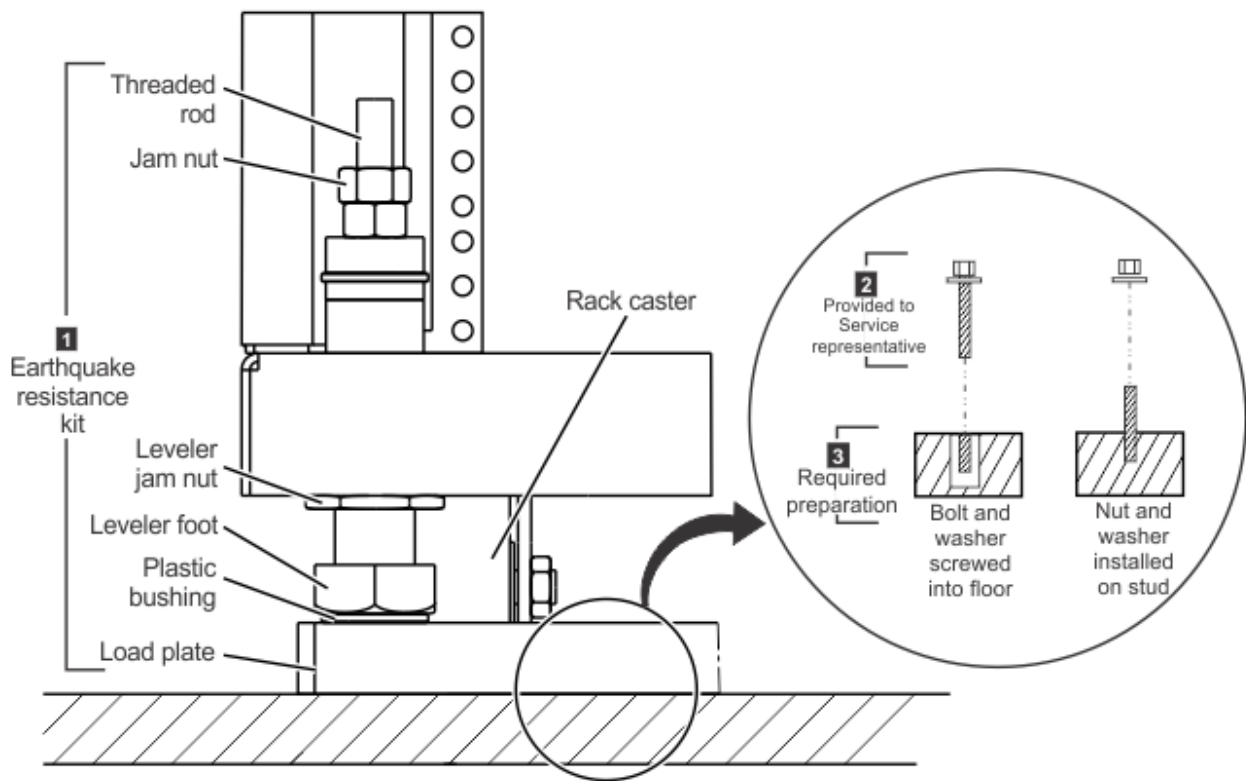

Figure 18. Earthquake resistance kit installed on a nonraised floor.
Figure 18 on page 105 provides an illustration of the earthquake resistance kit (1) after the IBM service representative installs it on the nonraised floor.
Before the IBM service representative installs the kit, you must prepare the area that is shown as (2) in Figure 18 on page 105. This figure shows two of the most common fasteners that you can use.
The following examples provide descriptions of nonraised floor fastener sets. Figure 18 on page 105 illustrates the fastener sets.
3. When the IBM service representative arrives to install the earthquake resistance kit, provide the other fastener parts (2) in Figure 18 on page 105 so that the representative can use these parts secure the load plates onto the floor.